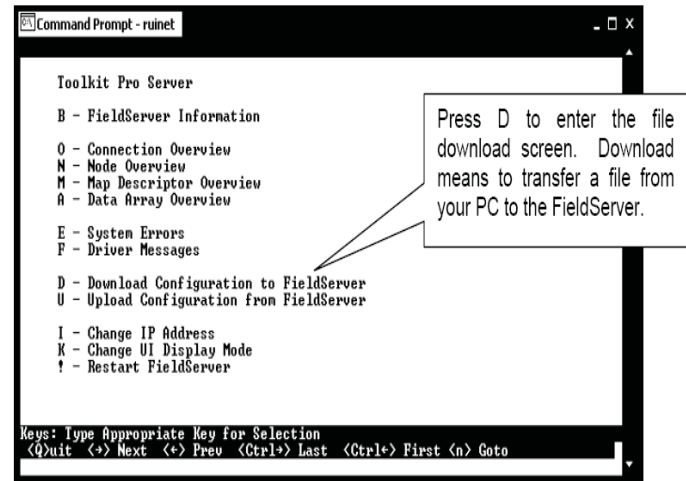

Figure 19: Download new Config.csv file
14.) From the *RUINET Main Menu*, type <D> to Download the new config.csv file to the FieldServer (**Figure 19**).